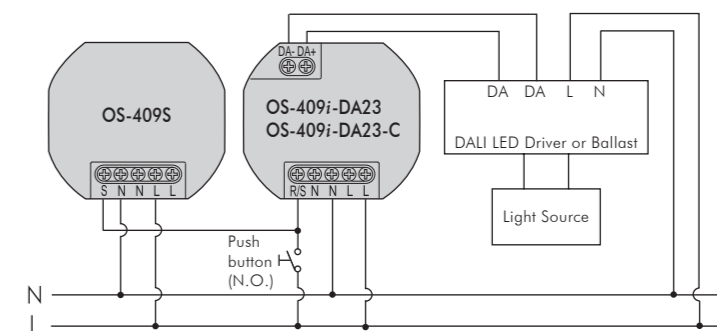
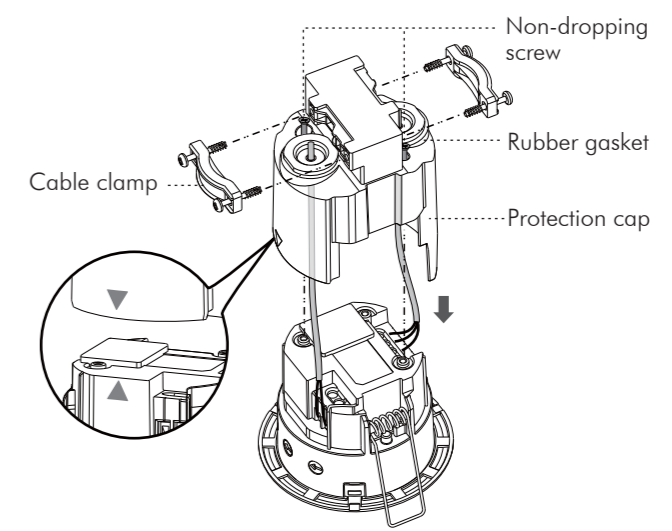

FIG.5
FIG.7
3.3.1 Normal operation: Max. 10pcs slave detectors can be connected to R/S terminal of the master detector (See FIG.5). The maximum cable length between the first detector and the last detector must not exceed 100m, and each two detectors should be at least 1m.
3.4.1.3 Break the rubber gasket, then feed cables through it (See FIG.7). **Note: Cable clamp is only available as optional accessory.**
3.4.1.4 Please refer to illustration of FIG.5 for correct wiring and get "▼" symbol of the power box cap to be aligned with the "▲" symbol of housing (See FIG.7), then screw the power box cap tightly.
2. Incorrect wiring.	2. Connect the load referring to the wiring diagrams (See FIG.5).
3. Incorrect wiring.	3. Connect the load referring to the wiring diagrams (See FIG.5).